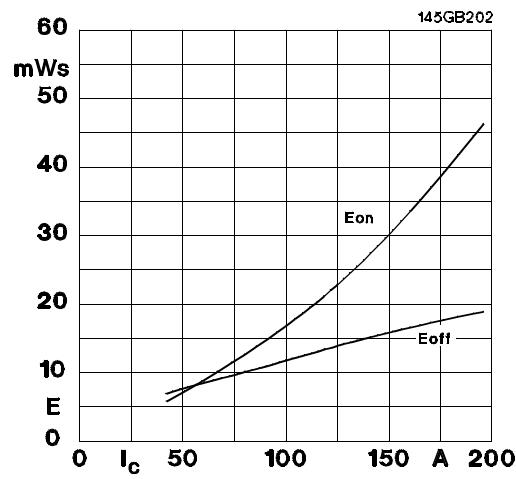

Fig. 2 Turn-on /-off energy  $= f(I_C)$
5) See fig. 2 + 3;  $R_{Goff} = 6,8 \Omega$